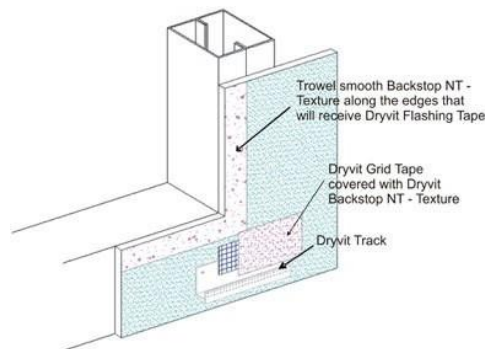

Fig. 18
- a) For concrete and masonry, ensure that a continuous film of uniform thickness is applied across the entire surface and across mortar joints. Minimum two (2) coats are required allowing a minimum of two (2) hours between coats. Cool, damp weather may require longer time between coats.
- 4) While the Backstop NTX - Texture is still wet, using a trowel or spatula, smooth out the Backstop NTX - Texture around all window and door perimeters and other areas - Figure 18.
- 4) While Backstop NTX - Texture is still wet, using a trowel or spatula, smooth out the Backstop NTX -Texture around all window and door perimeters and other areas– Figure 18.